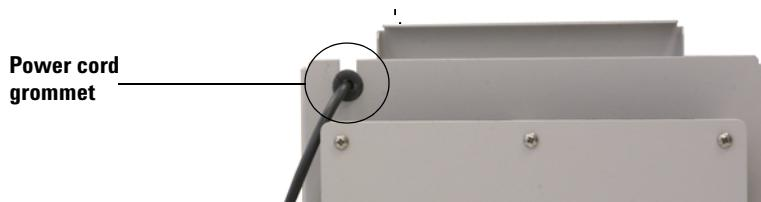

Figure 5 Power cord grommet.
- b Slide the cord and grommet from the groove in the back upper edge of the Quiet Cover frame. (See Figure 5.)